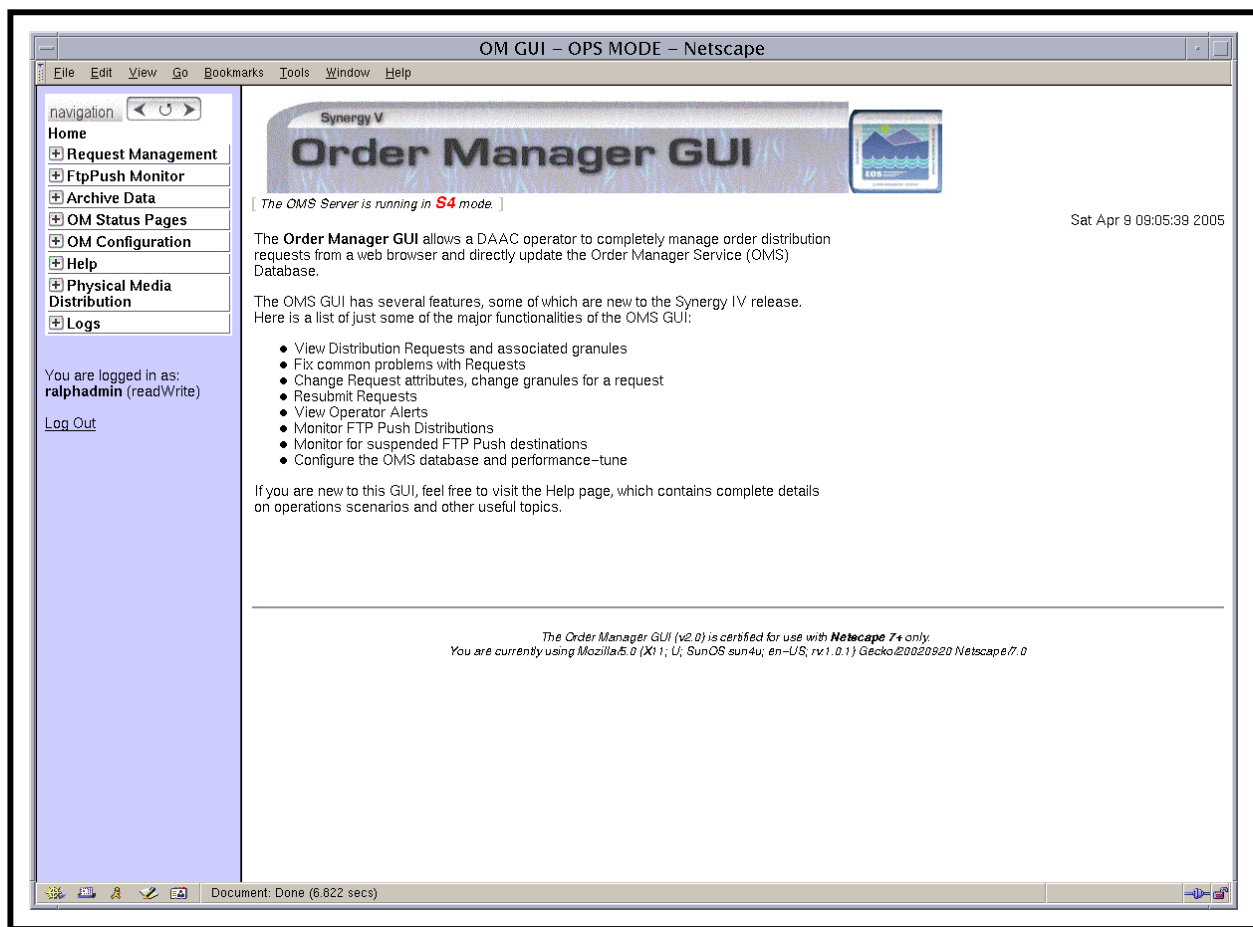

Figure 23. Order Manager Page ["Home" Page]
- The **Order Manager Page** [**"Home" Page**] (Figure 23) is displayed.